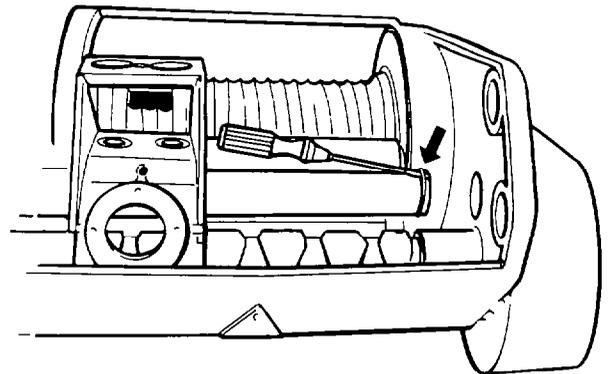

Figure 136 Fairlead Guide Shaft — O-Ring
- q. Use a suitable soft drift and hammer to drive the guide shaft out of the winch housing from the sprocket housing end; drive the shaft out of the housing until the O-ring on the end of the shaft can be removed; remove the O-ring from the shaft (see Fig 136) and remove the shaft from the fairlead housing and winch.